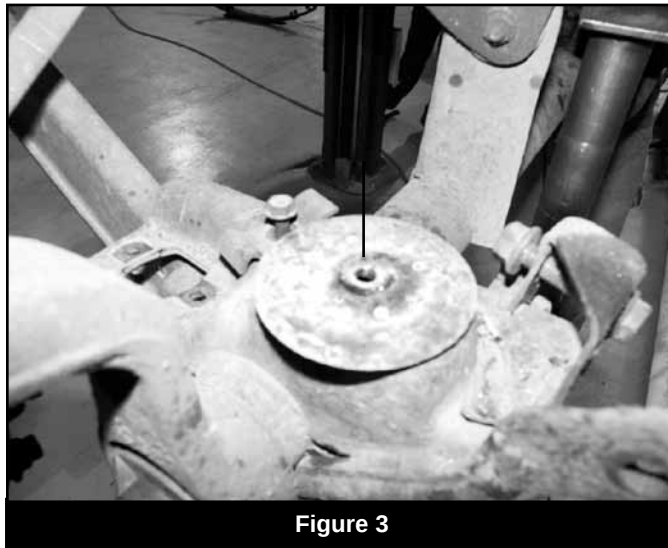

Figure 3
19. Drill the lower bump stop holes using a 11/32" or T size drill and use the 3/8" self-tapping bolt (BP 438) to cut threads for bump stop extensions. Remove the 3/8" self-tapping bolt. (Fig 3)